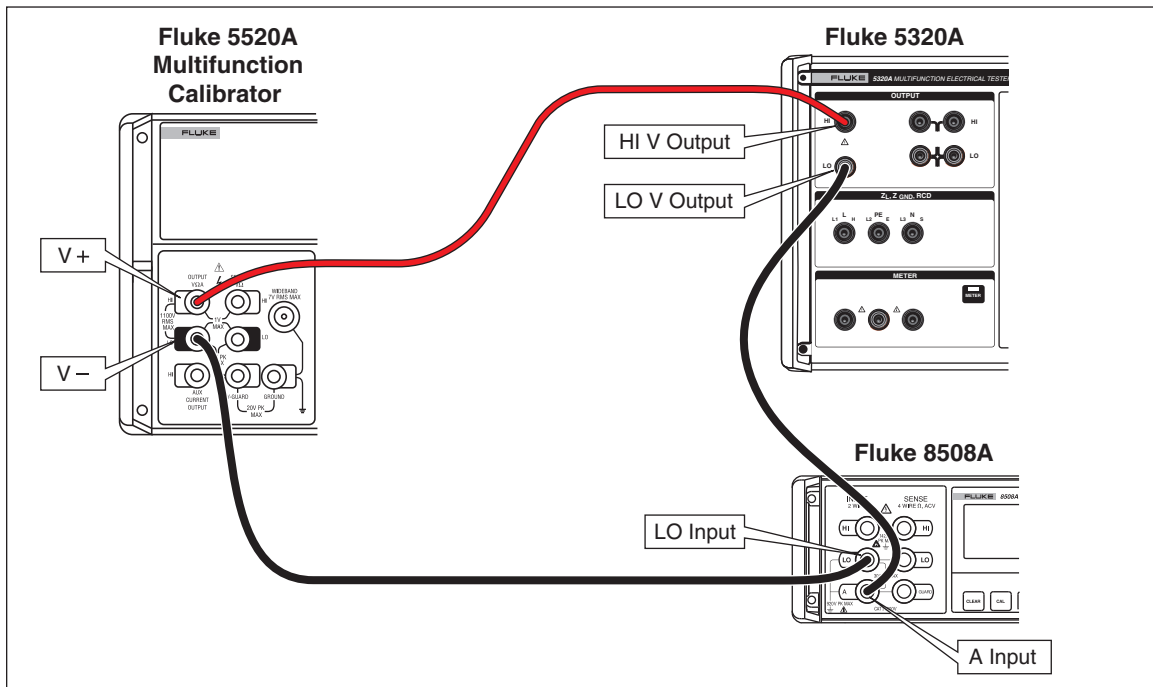

Figure 6-7. Multimeter Current Verification Setup
1. Press **[mA~]** to select the passive leakage current function on the Calibrator. Connect the multifunction calibrator's output (Fluke 5520A in this example) to the HI and LO V~ terminals of the Calibrator as shown in Figure 6-7. On the 5520A calibrator, set its output to the nominal voltage of the power line voltage the Calibrator is powered from (115 V ac or 230 V ac), and set the frequency to 55 Hz.
2. Connect the standard multimeter's current terminals according to the connections shown in Figure 6-7. Select the ACI function with auto range on the standard multimeter (for example, Fluke 8508A).